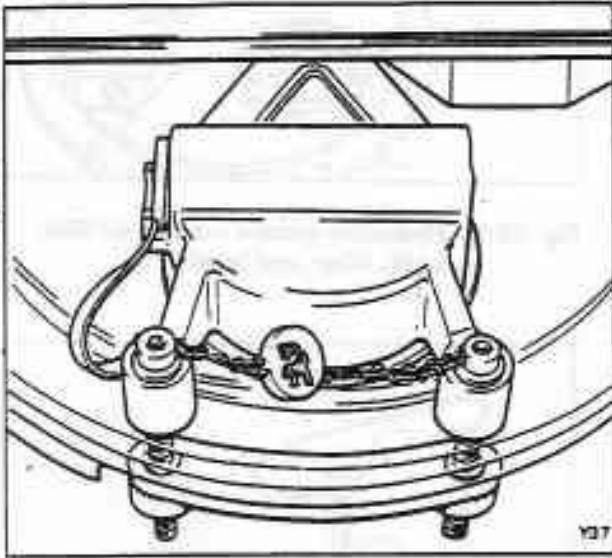

Fig. G5-7 Filler cap security sealing
6. Fit new security seals (see fig. G5-7).